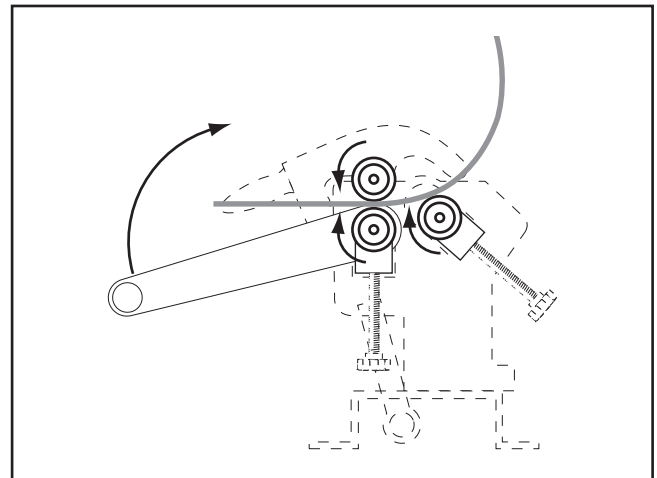

Figure 19. Processing the workpiece.
- Turn the crank to process the material through the slip roll. Continue turning until the workpiece is completely through the top and bottom rollers (**Figure 19**).